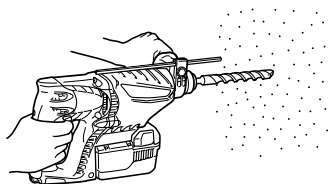

Fig. 13
- (1) Mount the drill bit.
- (2) Pull the trigger switch after applying the drill bit tip to the drilling position. (Fig. 13)
- When the drill bit touches an iron reinforcing rod, the bit will stop immediately and the rotary hammer will react to revolve. Therefore please grip the side handle and handle tightly as shown in Fig. 13.